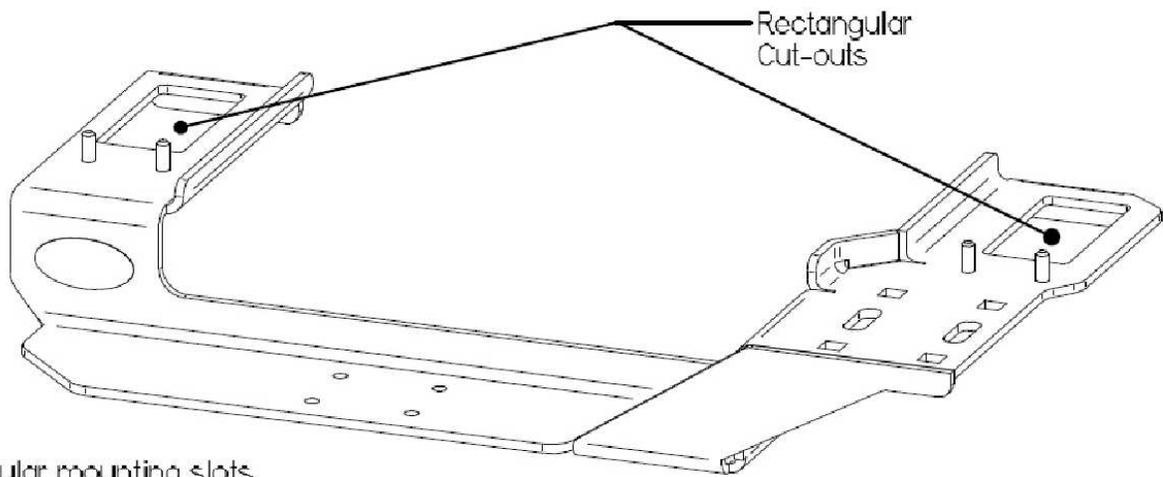

FIG. 2
3. Place the base in the vehicle, with the rectangular cut-outs over the "hook" slots in the floor. Tilt the seat forward and insert the "hooks" through the rectangular cut-outs in the base and into the mounting slots on the floor of the vehicle. (see FIG.2)